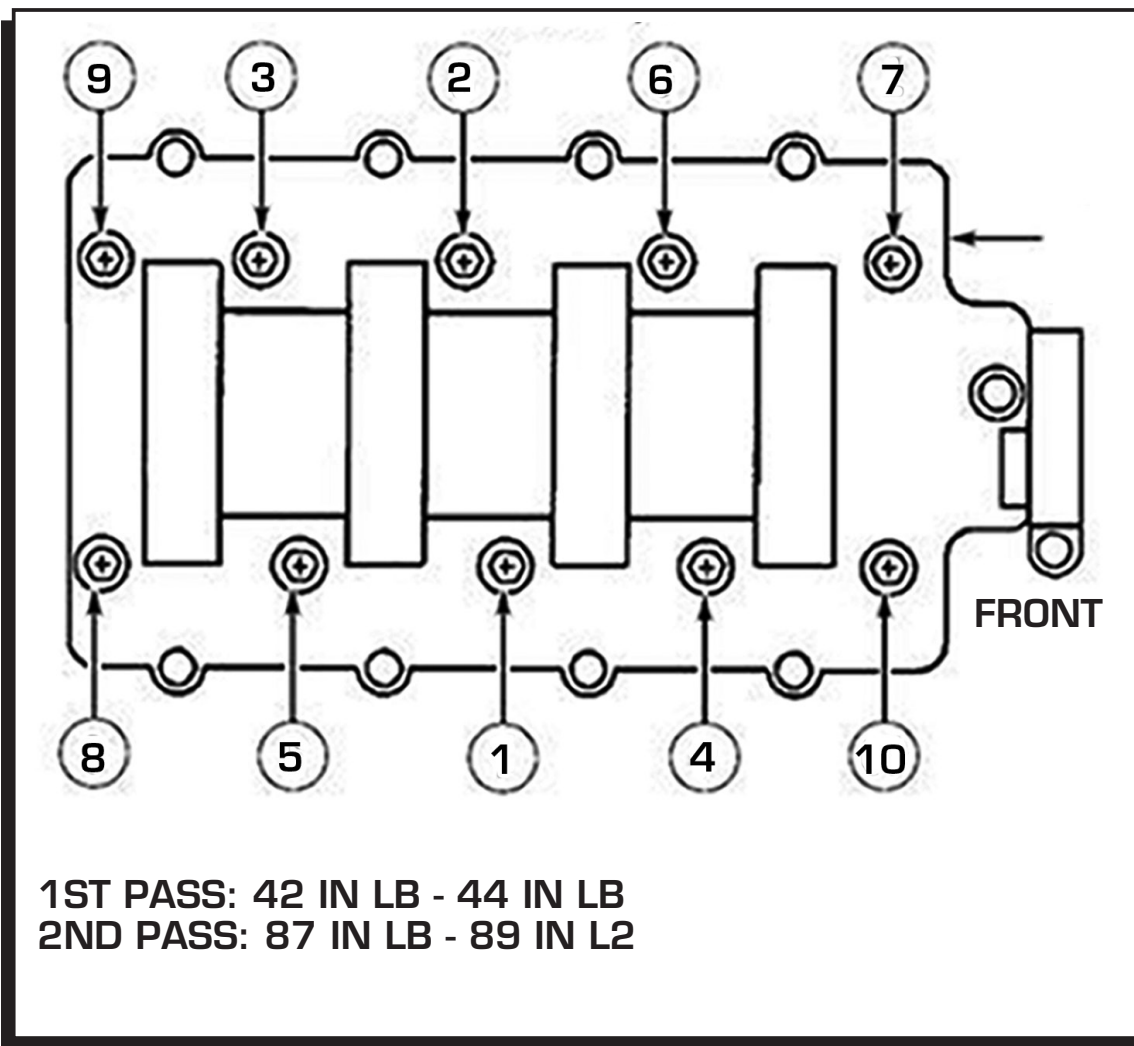

Figure 4 Intake Manifold Torque Specifications.
13. Use the torque sequence on page 4, Figure 4 to torque the manifold bolts down correctly. Bolts #9 and #10 will use the stock length bolts/bushings.